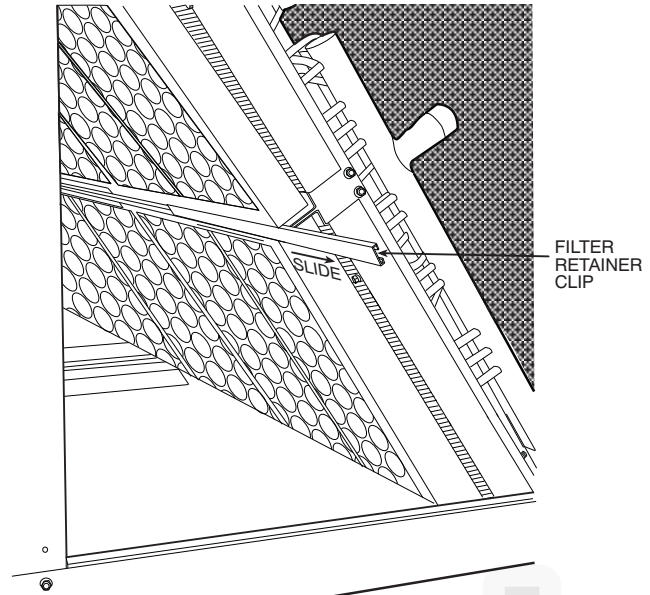

Fig. 28 - Remove Filter Retainer Clip
2. Remove the filter retainer clip (see Fig. 28).